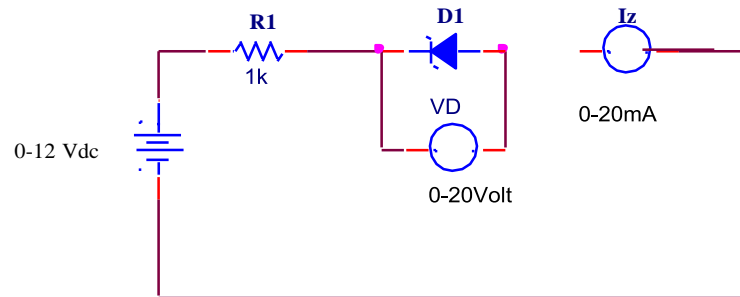

Fig 4.2 Circuit diagram for reverse bias condition of diode
5. Using suitable patch cords make connection as shown in Fig. 4.2 for reverse characteristics.